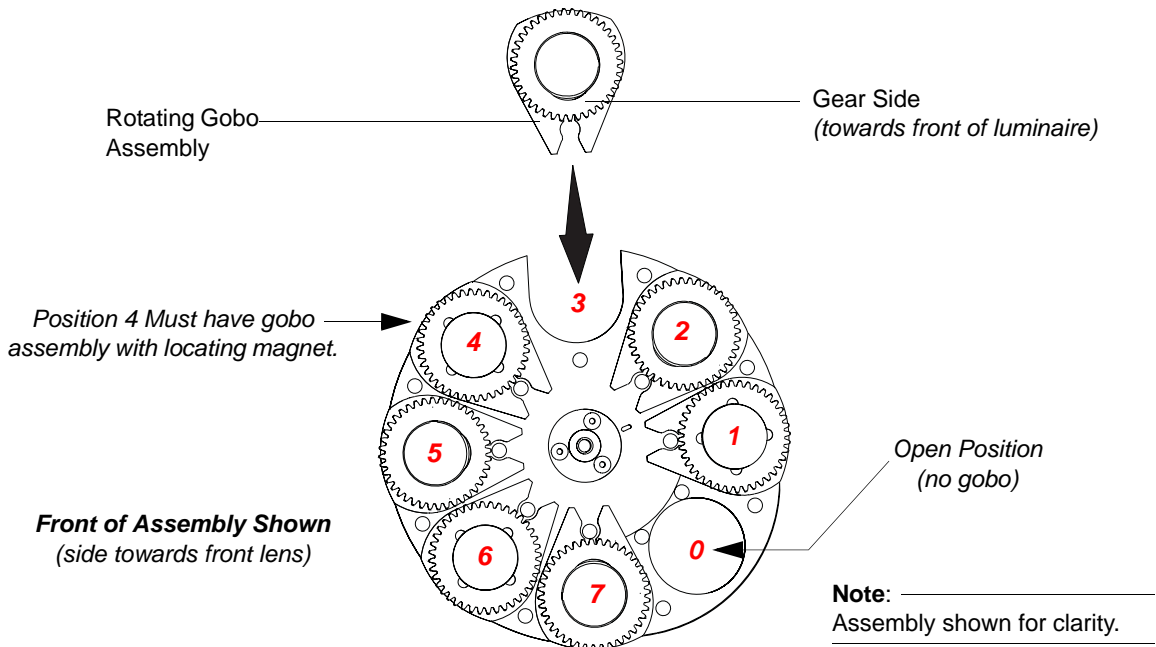

Figure A-9: Rotating Gobo Wheel - Gobo Installation.
- Step 5. At position where rotating gobo was removed, place replacement rotating gobo over open slot (as shown in Figure A-9), slide into wheel, and gently snap gobo into place.